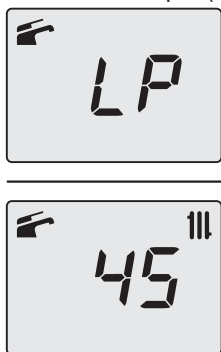

Fig. 10.22
- Press keys 11 and 13 (Fig. 10.19) at the same time until the LCD display displays the letters **LP** that alternate with the heating water temperature value (e.g.**45**), indicating the activation of the "flue sweep function" at minimum output (Fig. 10.22).